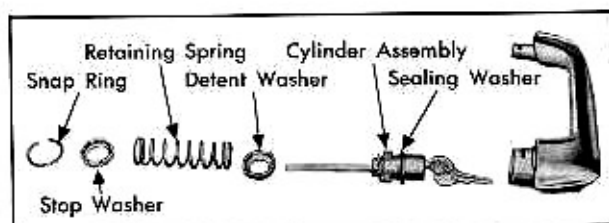

Fig. 3-23 Door Handle Assembly
2. With suitable tool, remove retaining snap ring in Fig. 3-23, and carefully remove stop washer,
3. Remove cylinder assembly with sealing washer from door handle, Fig. 3-23.
(23) Door Lock Cylinder Disassembly and Assembly